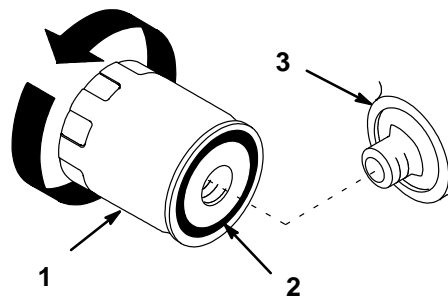

Figure 19
2. Remove the old filter and wipe the filter adapter (Fig. 19) gasket surface.
5. Apply a thin coat of new oil to the rubber gasket on the replacement filter (Fig. 19).
6. Install the replacement oil filter to the filter adapter. Turn the oil filter clockwise until the rubber gasket contacts the filter adapter, then tighten the filter an additional 1/2 turn (Fig. 19).